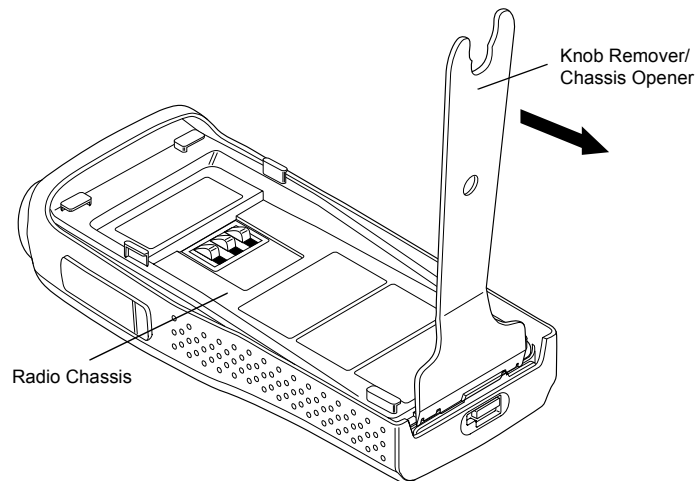

Figure 8-3. Chassis Removal
5. Separate the chassis from the front housing assembly by using the knob remover/chassis opener tool. Place the broad side of the opener into the slots located at the base of the radio (Figure 8-3). Press the handle on the opener downwards. This pressing action forces the thin inner plastic wall toward the base of the radio, releasing the two chassis base tabs..